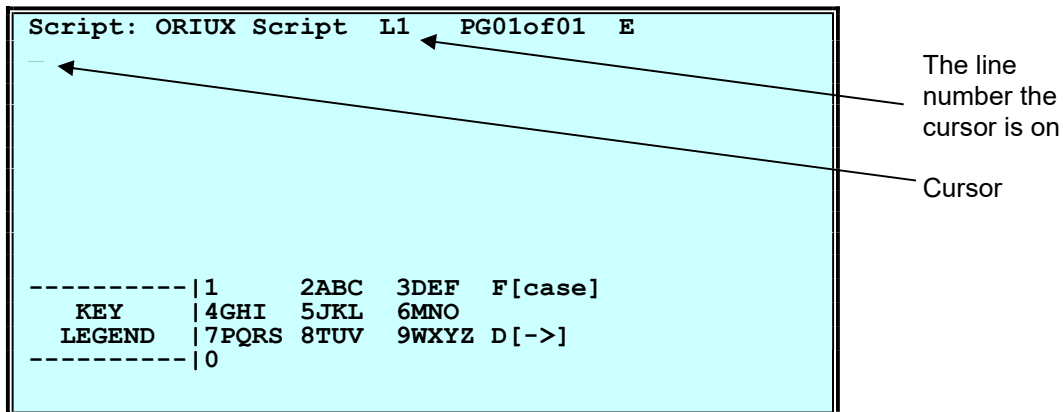

Figure 6.3.1 The Display/Edit Script Screen
4. **Edit the Script's Text:** Press [D] to move to the Display/Edit Script screen. Press [*][E] to enter Edit Mode. The screen will look like Figure 6.3.1 below. Use the Key Legend and Shortcut Menu [MNU] to generate the Script's text. Press [*][E] to save the Script's text to the database. If an error message box occurs, see the Script Error Types section.